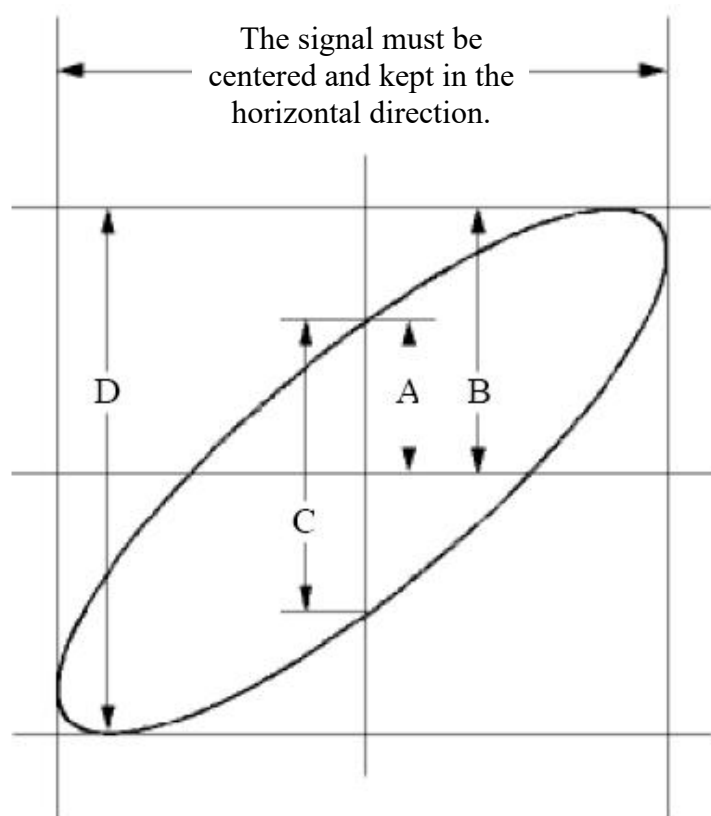

Figure 7-6 Lissajous Graph
- (3) Push the CH1 and CH2 button to turn on CH1 and CH2.
- (4) Push the **Autoset** button, with the oscilloscope turning on the signals of the two channels and displaying them in the screen.
- (5) Push **CH1** button to select CH1, turn the lower knob, and then push **CH2** button to select CH2, turn the lower knob, making the amplitudes of two signals equal in the rough.
- (6) Click  to call up the menu panel. Click the **XY** softkey on panel to switch to the **ON** state. The oscilloscope will display the input and terminal characteristics of the network in the Lissajous graph form.
- (7) Turn the upper and lower knobs, optimizing the waveform.
- (8) With the elliptical oscillogram method adopted, observe and calculate the phase difference (see *Figure 7-6*).